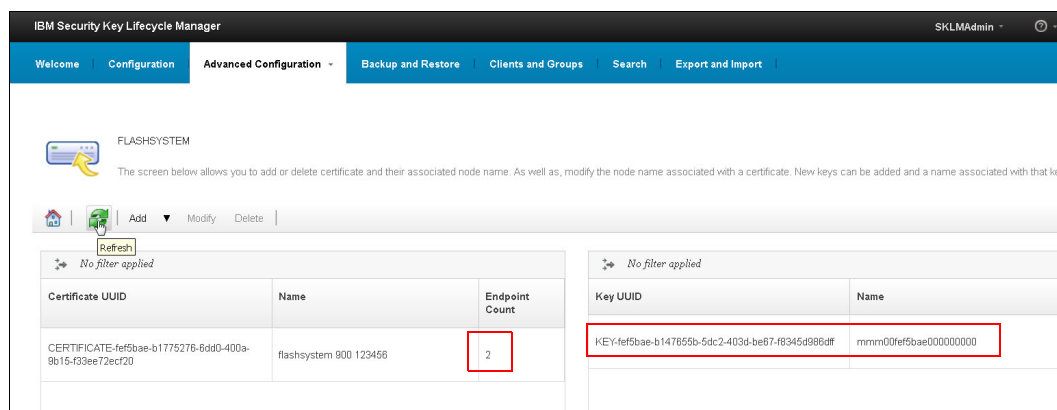

Figure 7-61 SKLM GUI shows each FlashSystem canister as Endpoint and encryption key
25. In the SKLM GUI that is shown in Step 19 on page 267, click **Refresh**. Each FlashSystem 900 canister represents a single Endpoint in the SKLM GUI. A key also is shown under Key UUID that is used for FlashSystem 900 encryption (see Figure 7-61).